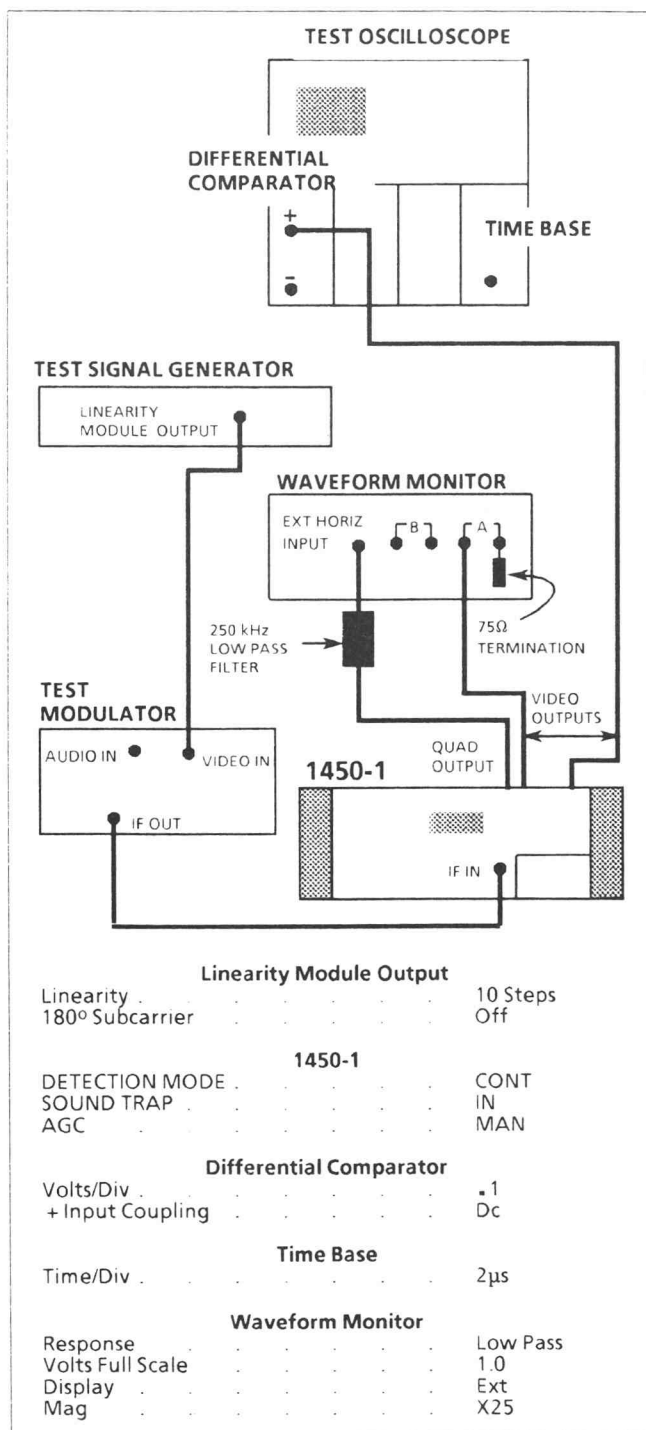

Fig. 4-50. Setup for adjusting video-to-quadrature phase.
- Connect and set the test equipment as shown in Fig. 4-50.
- Connect and set the test equipment as shown in Fig. 4-50 with the following exceptions:
- a. Connect and set the test equipment as shown in Fig. 4-50 with the following exceptions:
- (1) Connect the test modulator IF Out through a 10X attenuator to the 1450-1 IF IN.
- (2) Set the 1450-1 DETECTION MODE to ENVELOPE.
- a. Connect and set the test equipment as shown in Fig. 4-50 (same as previous step).